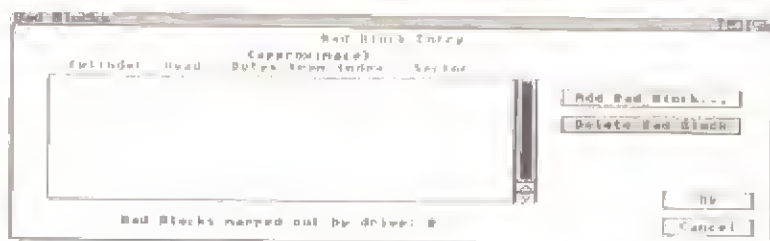

Figure 7. Bad Blocks Window
1. Click on the Modify Bad Block List gadget on the Hard Disk Preparation, Partitioning and Formatting window to view the Bad Blocks window, illustrated in Figure 7.